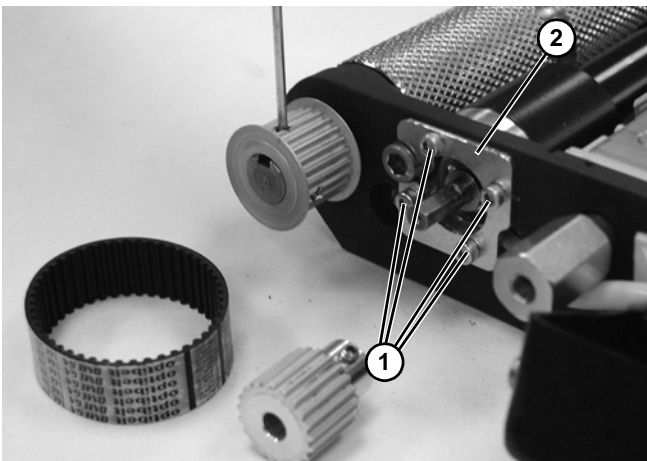

Figure 72
- Remove four clamp plate screws (**Figure 72, item 1**) and clamp plate (**Figure 72, item 2**).